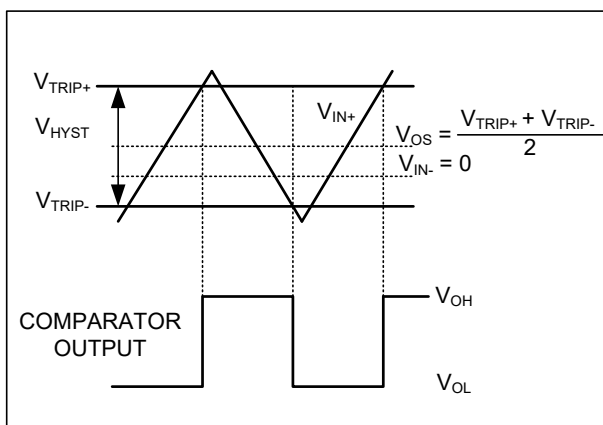

Figure 1. Input and Output Waveform,
3. V_{OS} is defined as the center of the input-referred hysteresis zone. See Figure 1.
4. The input-referred trip points are the extremities of the differential input voltage required to make the comparator output change state. The difference between the upper and lower trip points is equal to the width of the input-referred hysteresis zone. See Figure 1.
The hysteresis in a comparator creates two trip points: one for the rising input voltage and one for the falling input voltage (Figure 1). The difference between the trip points is the hysteresis. The average of the trip points is the offset voltage. When the comparator's input voltages are equal, the hysteresis effectively causes one comparator input voltage to move quickly past the other, thus taking the input out of the region where oscillation occurs. Standard comparators require hysteresis to be added with external resistors. The SGM8743's fixed internal hysteresis eliminates these resistors. To increase hysteresis and noise margin even more, add positive feedback with two resistors as a voltage divider from the output to the non-inverting input.
Figure 1 illustrates the case where $IN-$ is fixed and $IN+$ is varied. If the inputs were reversed, the figure would look the same, except the output would be inverted.